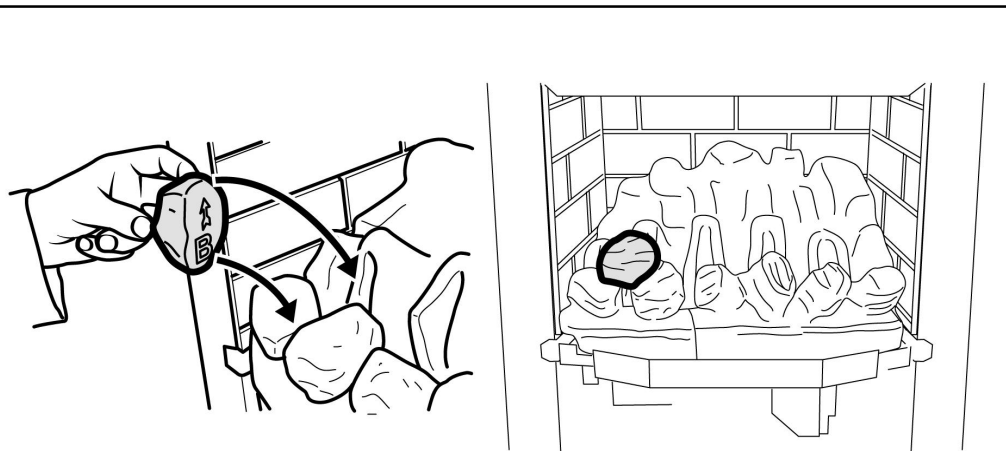

Figure 4. Second row "Coal B"
6. Hold coal 'B' upright with the arrow pointing to the top. Locate coal 'B' as shown in figure 4.